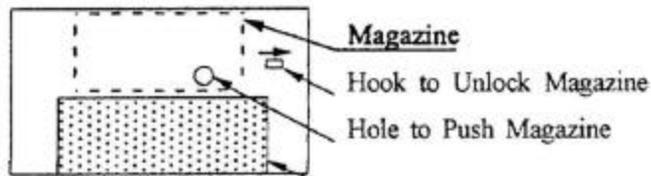

Figure 4-4. Rear View
3. Slide the "Hook to Unlock Magazine" right, and push the stuck magazine through the "Hole to Push Magazine" with a screwdriver, see Figure 4-4.